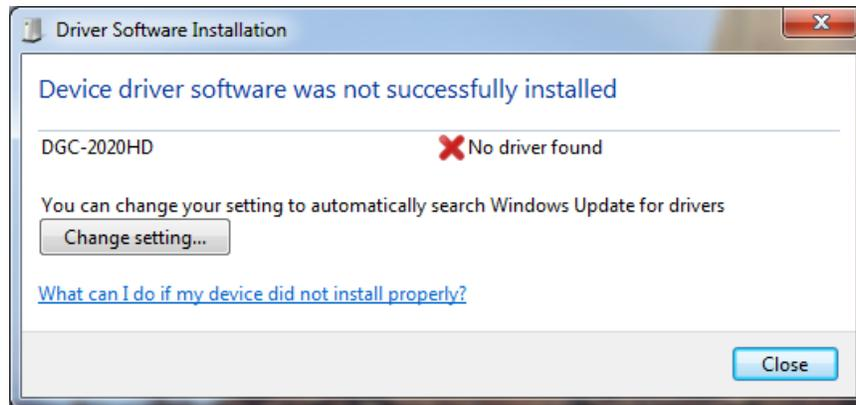

Figure 24-1. Driver Software Installation
- Step 1. If the message in Figure 24-1 is shown, close all programs and restart the computer.